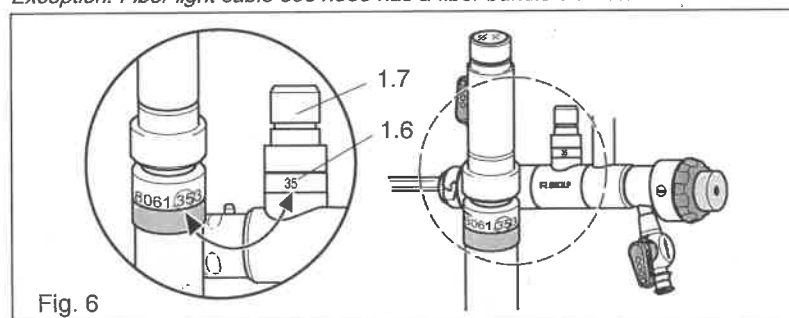

Fig. 6
- ♦ The identification (1.6) on the cold-light connector (1.7) must correspond with the 2 numbers to the right of the dot in the type number. (Fig. 6)